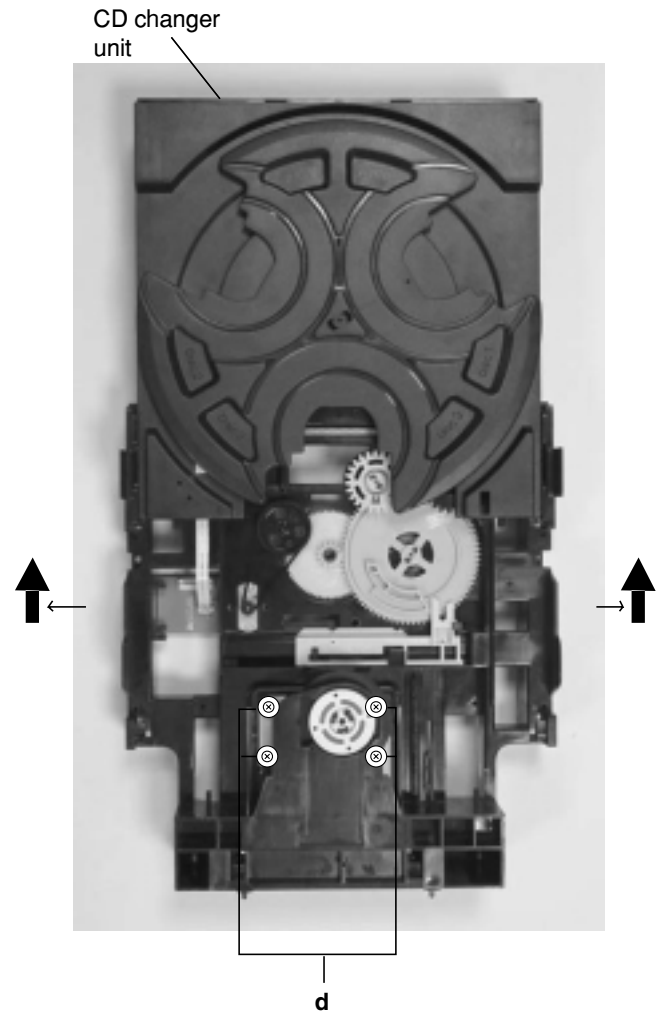

Fig.14
■ **Removing the CD changer mechanism assembly** (See Fig.14 to 15)